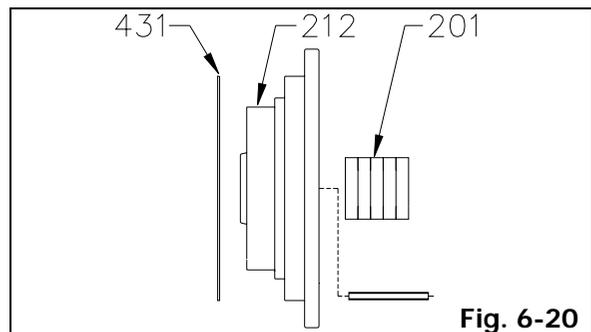

Fig. 6-20
6. Remove packing (201) from stuffing box cover (212).
7. Remove two (2) stuffing box cover studs from stuffing box cover (212) (Fig. 6-20).